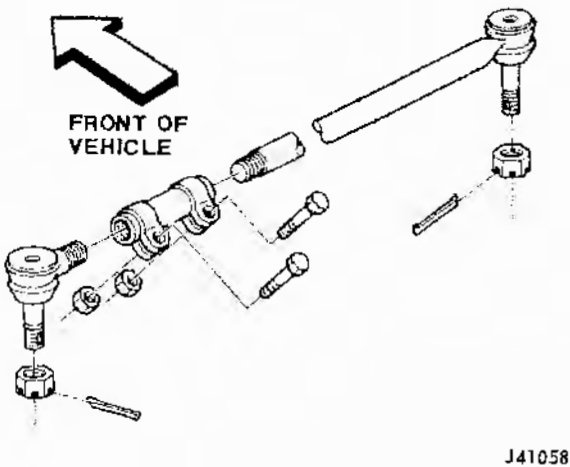

Fig. 11-46 Connecting Rod Exploded View
The connecting rod (fig. 11-46) consists of a rod threaded at the left end, with an integral ball-stud end assembly at the right end. A turnbuckle and a removable ball-stud end complete the connecting rod assembly. The end having the integral ball-stud end assembly attaches to the tie rod. The threaded end, with the turnbuckle and removable ball-stud end assembly, is attached to the pitman arm.
(1) Place front wheels in a straight-ahead position.
(2) Remove locknut securing damper to bracket on tie plate and lift damper off stud (fig. 11-46).
(3) Remove locknut securing push rod to tie rod bracket and remove damper assembly.